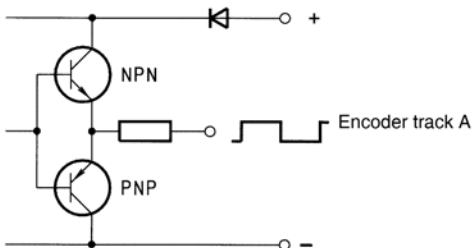

Figure 4.12 Block diagram, HTL output circuit
For notes on the encoder, see Figure 4.12 or section 6.3.1 "_79EN-Encoder evaluation"
A HTL encoder (see Figure 4.12) can be connected to terminals X2:11 and X2:12.
(1) The encoder is evaluated only in control mode FOR. For notes on the encoder, see Figure 4.12 or section 6.3.1 "_79EN-Encoder evaluation".